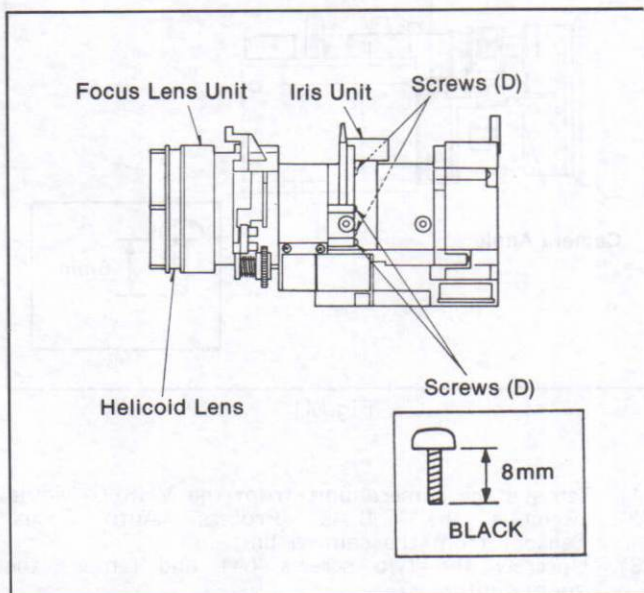

Fig.M3
- (8). Unscrew the four screws (D) and remove the focus lens unit with iris unit as shown in Fig.M3.
- (9). Remove the iris unit from focus lens unit and replace the focus lens unit.
- (10). After replacing the focus lens unit, install the iris unit to focus lens unit.
- (11). Install the focus lens unit with iris unit and then tighten the four screws (D) as shown in Fig. M3.
- (12). Adjust the helicoid lens position as follows.